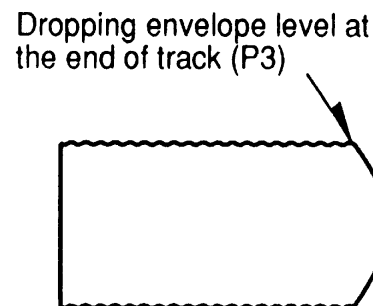

Fig. 16 - Envelope Output Adjustment
- If the waveform exhibits dropout at the end of the track (Fig. 16), adjust the height of the P3 post. To adjust the P3 post, loosen the black locking screw at the base of the post. Then turn the post with the post adjustment screwdriver. Upon completion of the adjustment, tighten the black locking screws using the lock screw wrench.